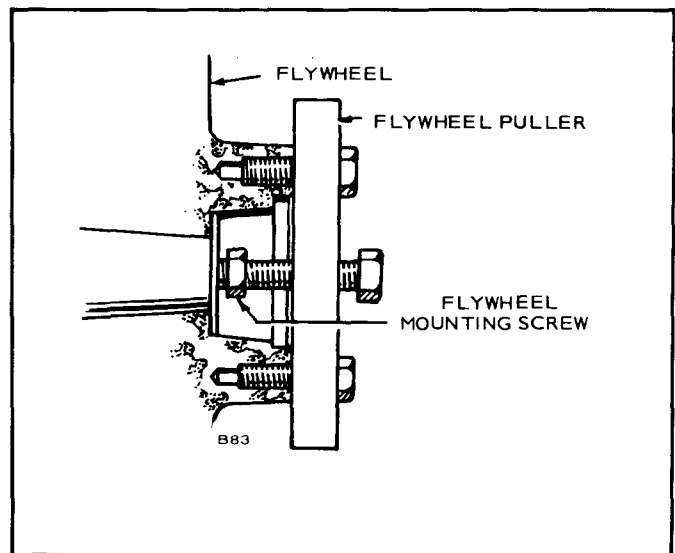

FIGURE 3. FLYWHEEL PULLER
2. Install a puller bar on the flywheel as shown in Figure 3.